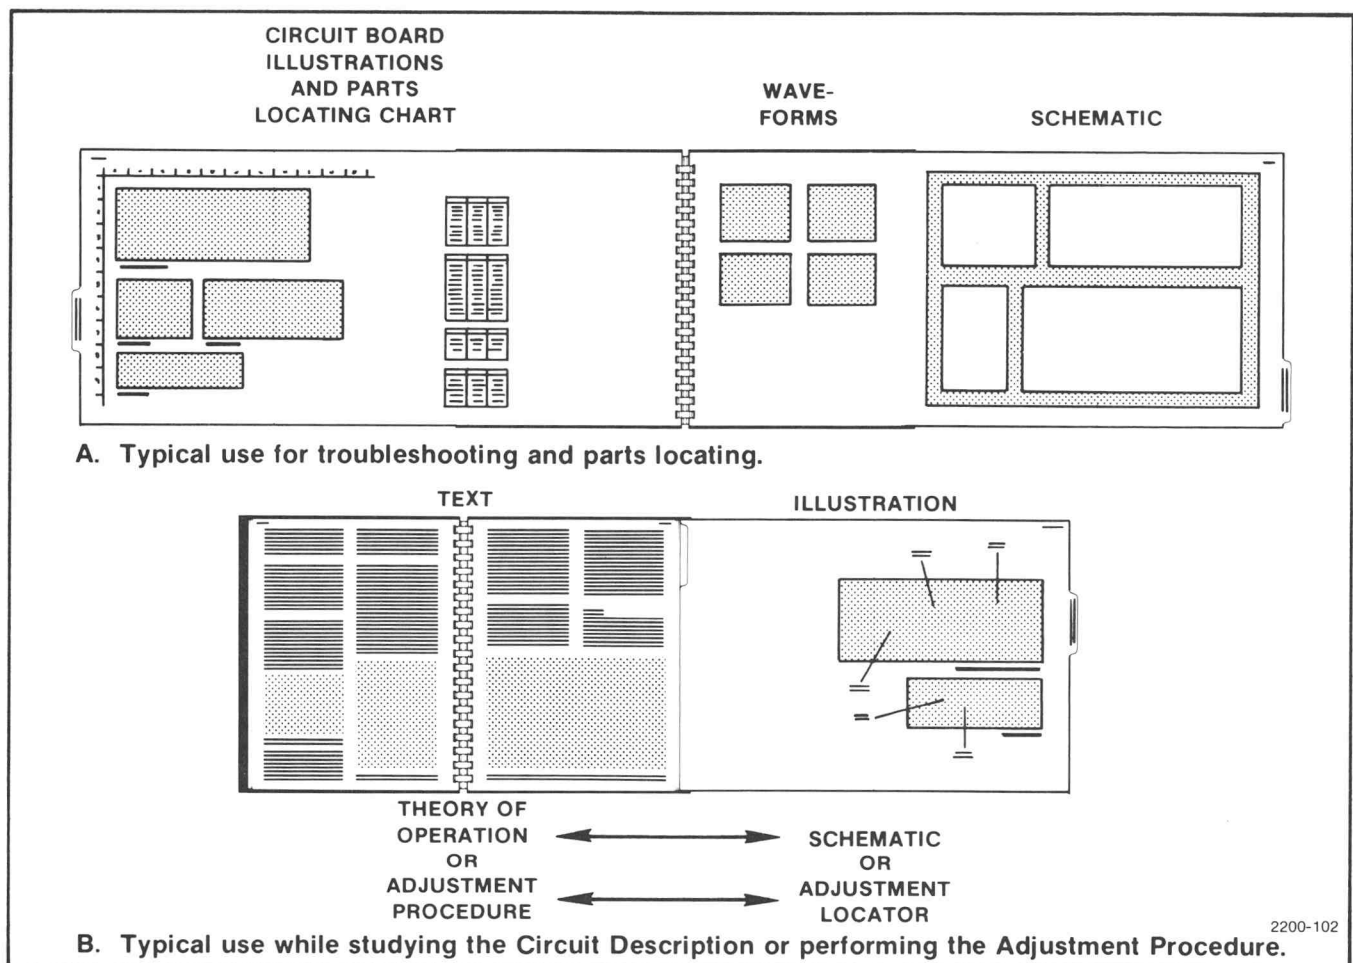

Fig. 5-1. Using the Foldout Pages.
**Foldout Pages.** The foldout pages at the back of the manual contain significant information useful for troubleshooting the instrument. Block and schematic diagrams, waveforms, circuit board illustrations, parts locating charts, and integrated circuit (ic) diagrams are located on foldout pages. See Fig. 5-1.